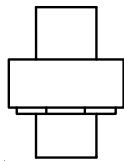

Figure 1
- Figure 1, Install magnet sleeve over distributor shaft, onto point cam or reluctor. Rotate sleeve until a slight locating position is felt before applying pressure. With magnet sleeve lined up on point cam or reluctor, press down firmly insuring sleeve is fully seated.